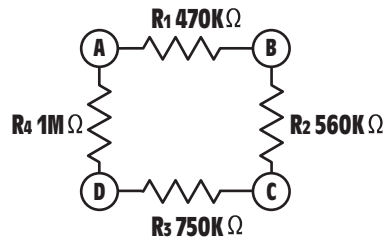

Figure 7-23 Practice Problem 3.
3. Refer to the circuit shown in *Figure 7-23*. Determine the amount of resistance that would be measured across the points indicated.